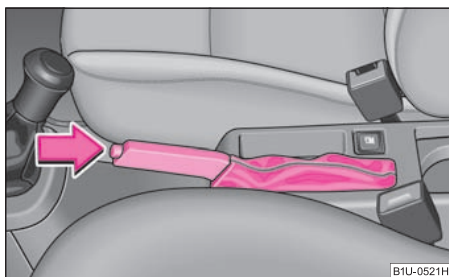

Fig. 107 Centre console: Handbrake
- Pull the handbrake lever up slightly and **at the same time** press in the locking button → fig. 107.